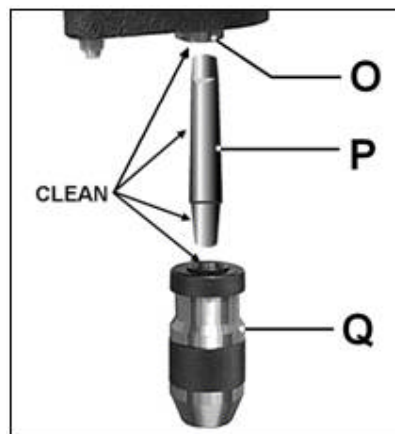

Fig 9
Thoroughly clean the spindle opening (O, Fig 9), the arbour (P), and the chuck (Q).